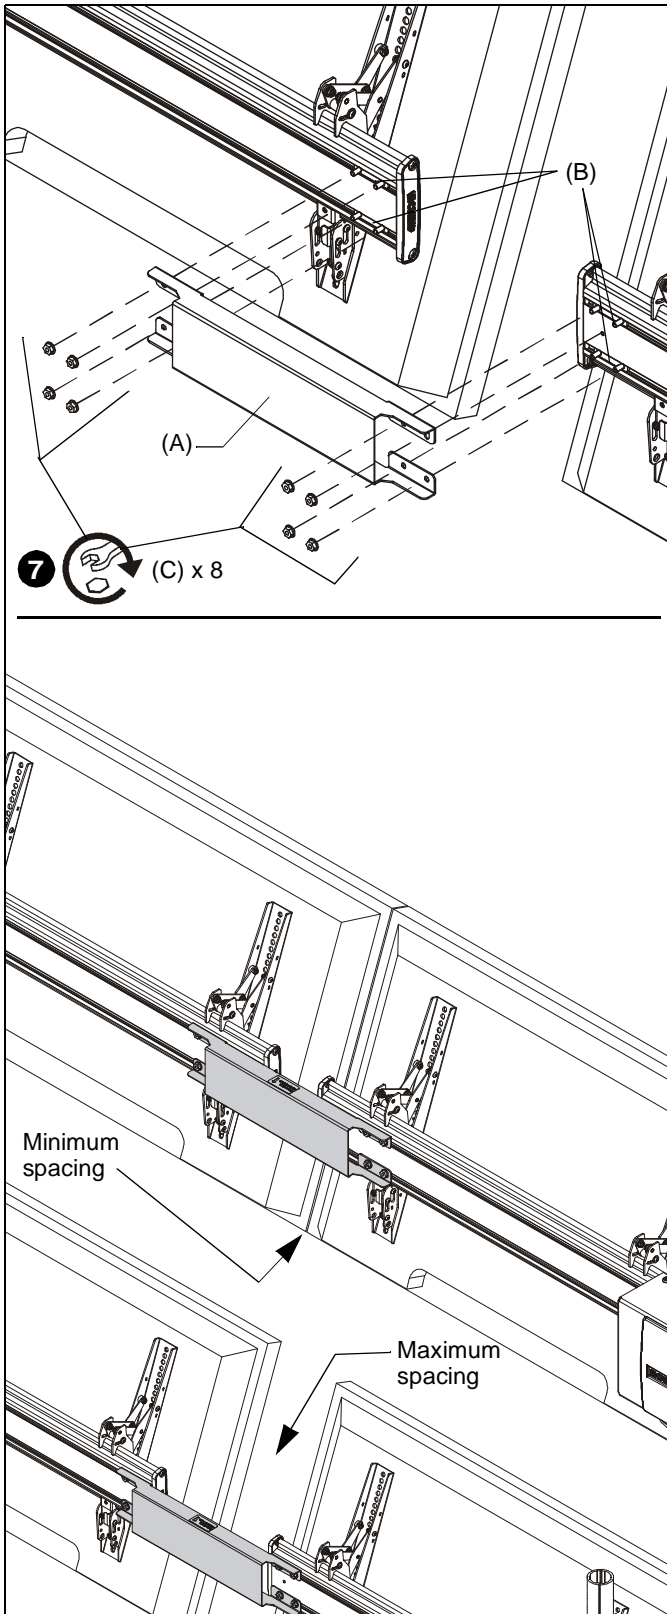

Figure 3
- Attach FCAC (A) to T-slot nuts (B) using eight 1/4-20 hex nuts (C). (See Figure 3)
NOTE: See the maximum spacing and minimum spacing examples of the FCAC. (See Figure 3)